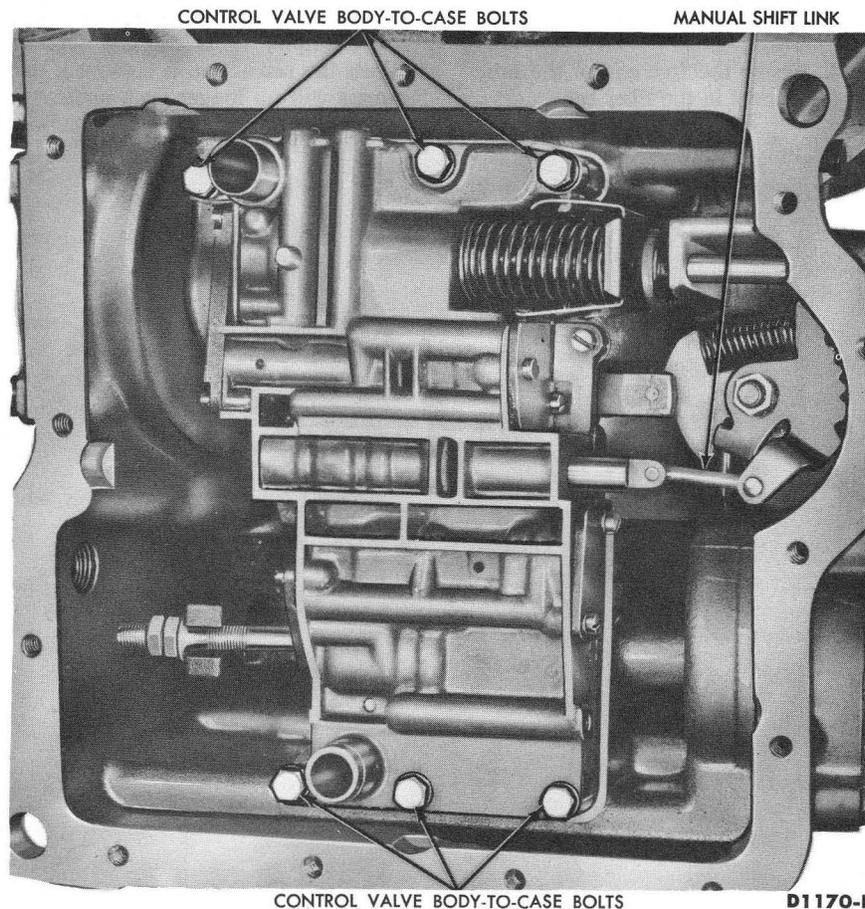

FIG. 1—Control Valve Body Mounted on Transmission Case
4. Remove the 6 bolts that attach the control valve body to the transmission case (Fig. 1).